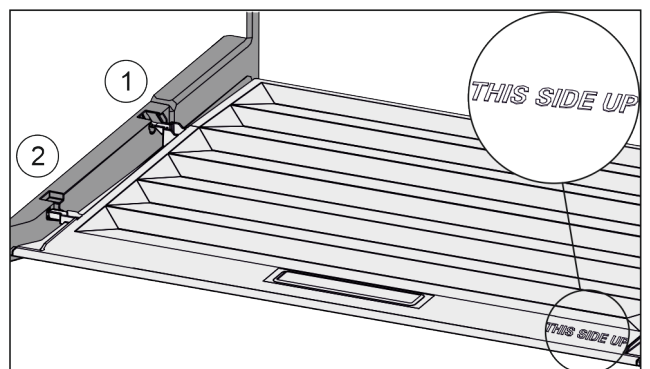

Fig. 32
- ▶ Insert the lip of the cover over the opening of the rear bracket Fig. 32 (1) and click into place Fig. 32 (2).